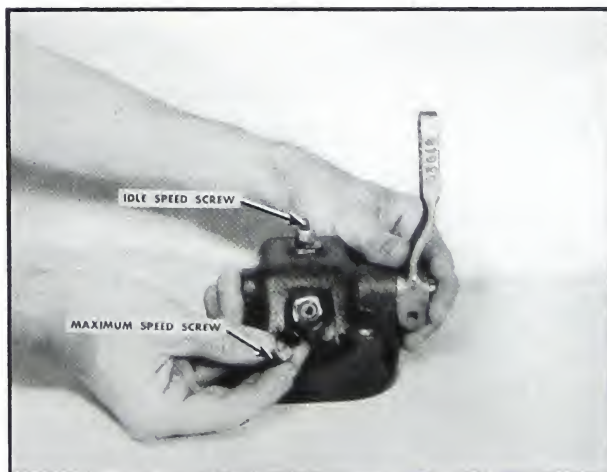

Fig. 5-324. Screw in adjusting screws
7. Screw the idle and maximum screws, copper washers and lock nuts into the cover. Fig. 5-324.